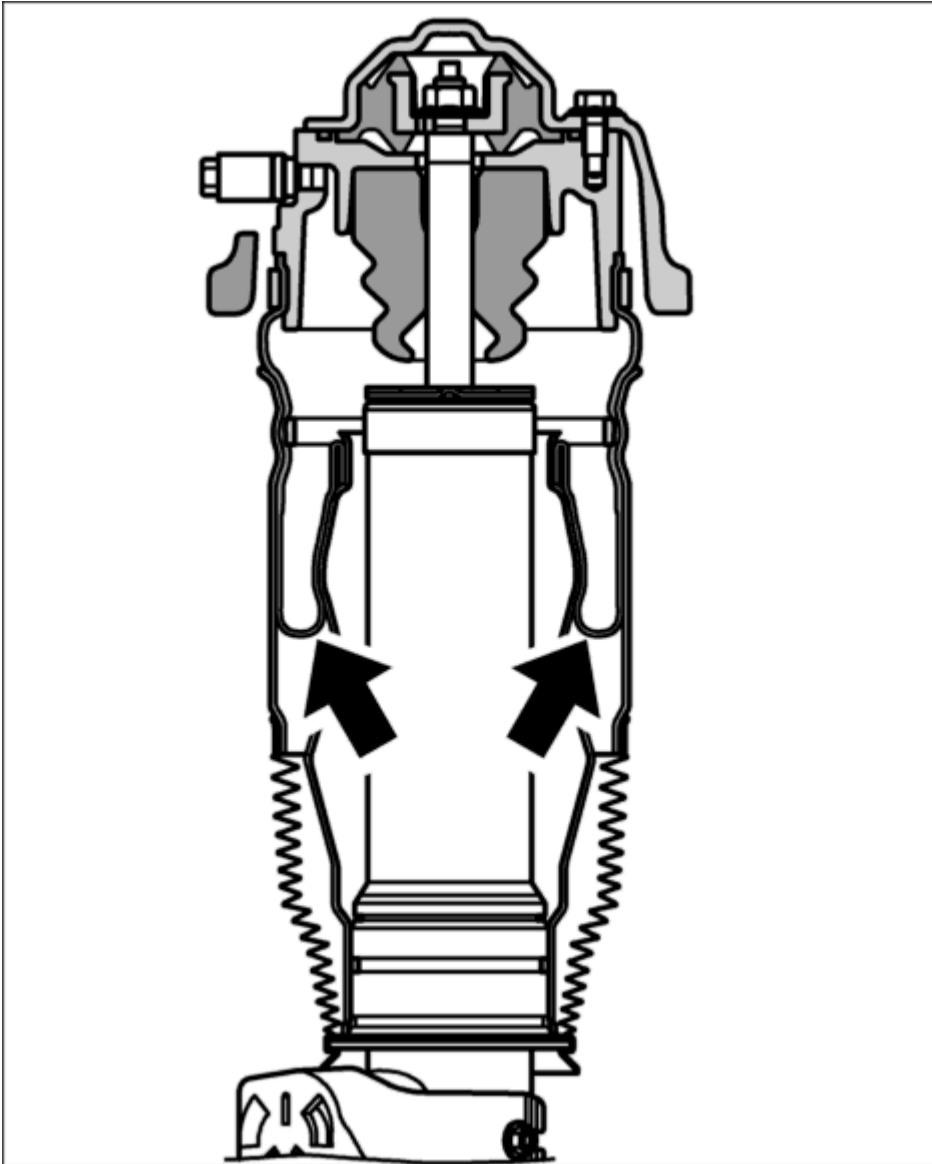

Fig. 28: Roll fold
4. Position the air spring on the shock absorber. Grasp the rolling piston and push downward by turning it slightly to the left and right. If the rolling piston has slipped out of the outer guide, it must be pushed back in again while forming a circumferential uniform roll fold on the rolling boot -**Arrows**- . See **Fig. 28**.